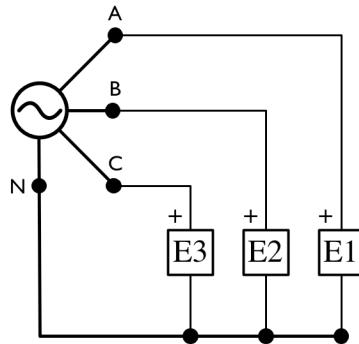

Figure 1.8: Phase Voltage Measurement
40. Turn off the power and reconnect voltmeters E1, E2, and E3 to simultaneously measure the PHASE voltages of the fixed voltage three-phase power supply, as shown in Figure 1.8.